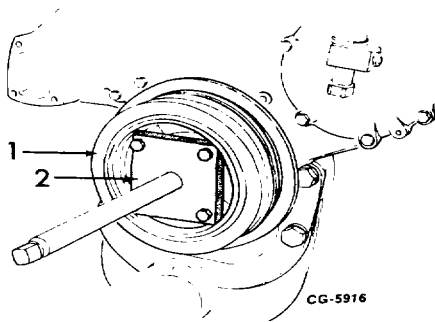

Figure 10. - Puller Installed on Four Hole Vibration Damper
- d. Engines equipped with the Four-Hole Damper (1, Fig. 10) must use the puller PLT-514 (2) for Payline applications as shown.